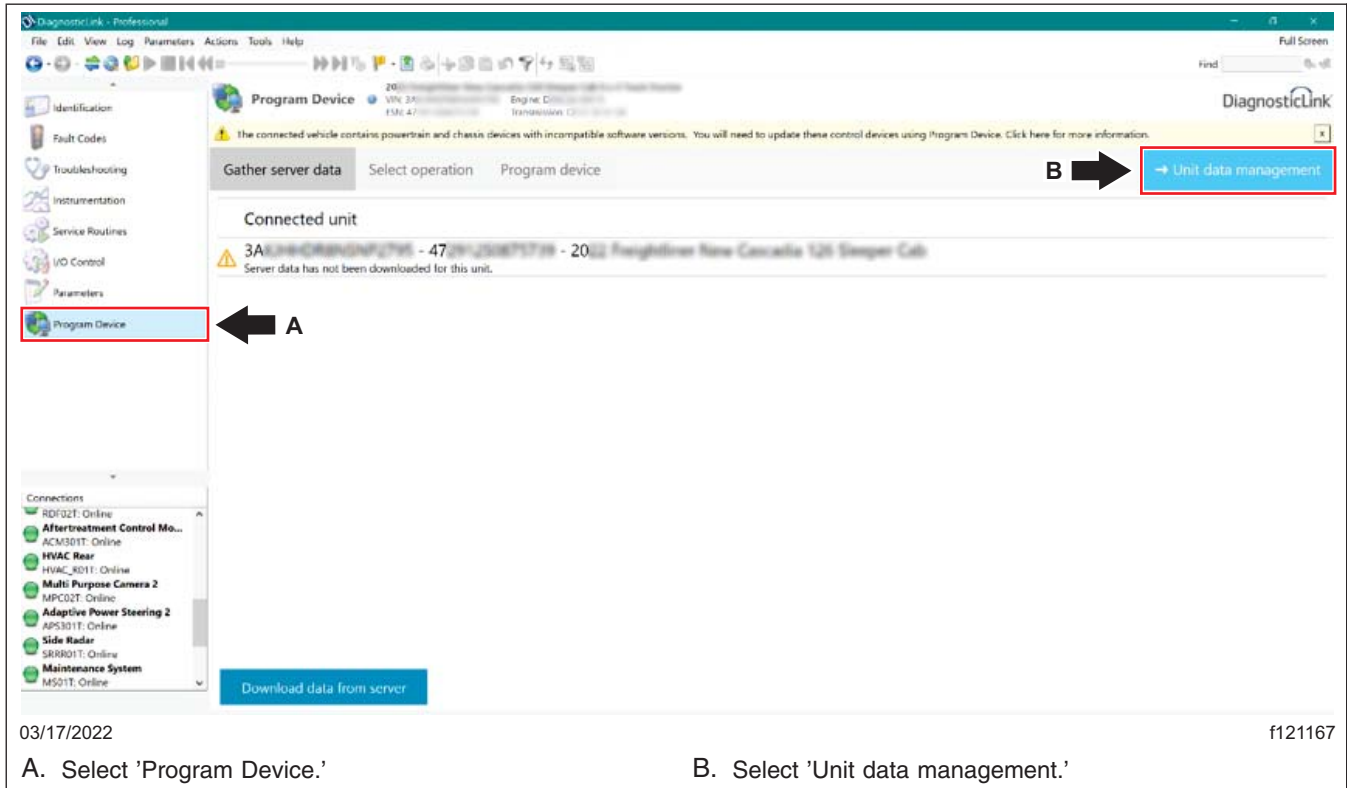

Fig. 5, Selecting Unit Data Management
8. Once the parameter write is complete, go to the 'Program Device' tab. Then select 'Unit data management' in the upper right corner. See Fig. 5.